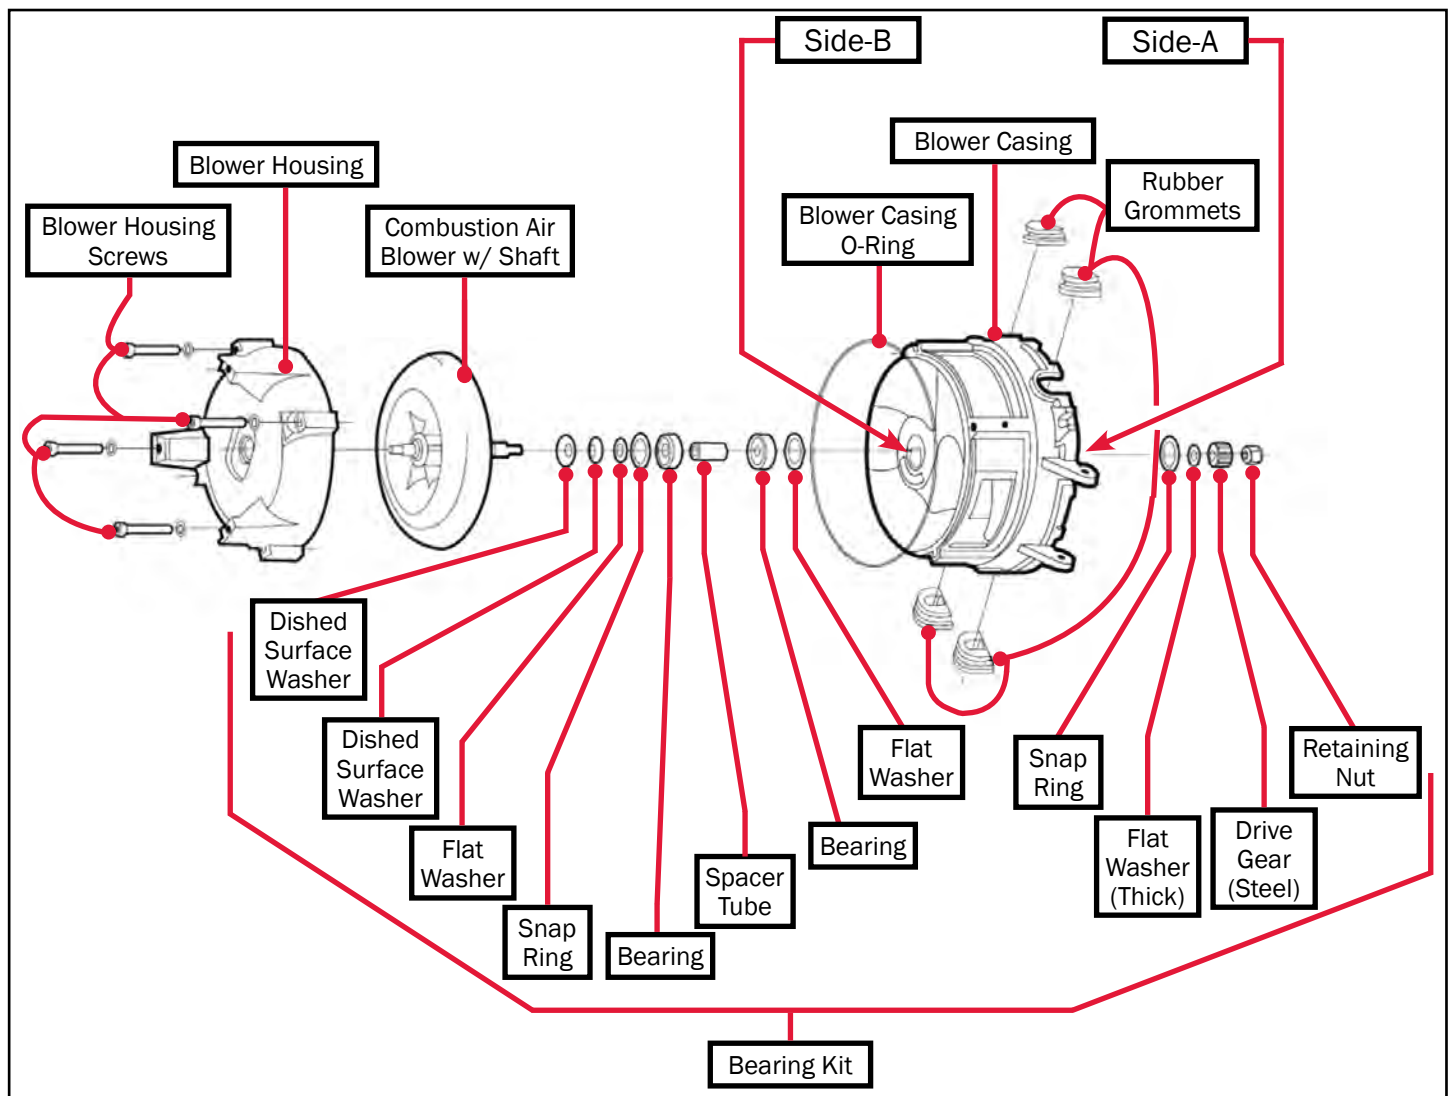

Figure 128b
- Hold side-B (see Figure 128b) of the blower casing and loosen the retaining nut located in side-A of the blower casing. Remove the retaining nut, steel drive gear and thick flat washer from the combustion air blower's shaft. Lightly tap the threaded end of the shaft so that the combustion air blower can be easily removed from the blower casing.